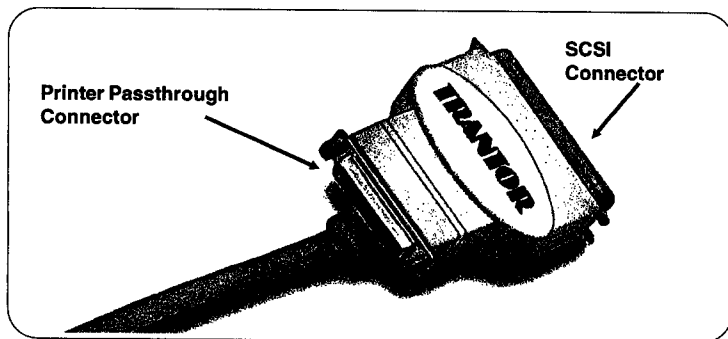

Figure 2 SCSI and Printer Passthrough Connectors
2. Connect the first SCSI device to the SCSI connector on the **MiniSCSI Plus** (see *Figure 2*). Other SCSI devices (up to 7 total) may be daisy-chained to the first SCSI device; see your dealer for details if you are not familiar with multiple-device connections.
3. If you wish to simultaneously use a parallel printer with your **MiniSCSI Plus**, connect it to the **MiniSCSI Plus**’s printer passthrough connector (see *Figure 2*) with a standard parallel printer cable. No special configuration or switching is needed to continue using your printer.